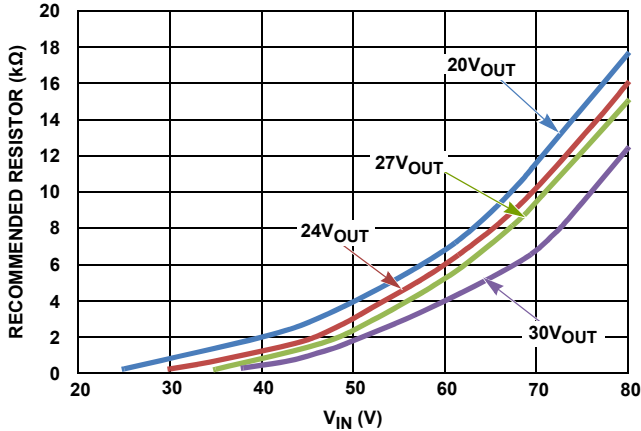
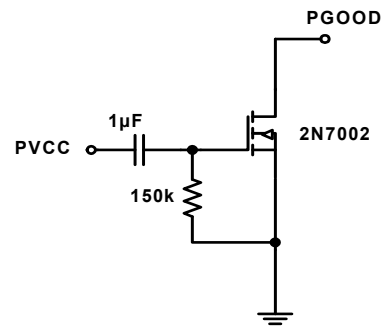

FIGURE 23. RECOMMENDED EXTERNAL RESISTOR VALUE FROM BOOT TO PVIN
FIGURE 25. PGOOD DELAY CIRCUIT
The internal bootstrap diode connected to the PVCC pin provides charge for the internal bootstrap capacitor. For above 12V_{OUT} applications, a resistor connecting between BOOT pin and VIN pin is recommended for certain conditions. Refer to Table 3. This resistor provides additional bootstrap charge introduced from VIN, which can ensure the gate drive circuit functions properly at very light load. See Figure 23 for the recommended external resistor values at 20V_{OUT}, 24V_{OUT}, 27V_{OUT}, and 30V_{OUT} conditions. A minimum 0.25W power rating is recommended for this resistor.
For >12V_{OUT} applications where V_{IN} power-up/down (module self enable/disable) is required and PGOOD signal is utilized, a PGOOD delay circuit and a 1kΩ, 1W rating dummy load resistor are recommended. The PGOOD delay circuit is shown in Figure 25. Note when the dummy load resistor is used, the resistor between V_{IN} and BOOT (Figure 23) is no longer required. During V_{IN} power-up (module self enable) for >12V_{OUT} applications at very light load current, without such a delay circuit, V_{OUT} may have a drop after initially reaching the target due to the lack of bootstrap charge. With such a delay circuit, the PGOOD signal can be delayed for 250ms. For applications of ≤12V_{OUT}, the PGOOD delay circuit is not required.
- Refer to Figure 23 for V_{IN} -BOOT resistor (R_{BOOT}) value.